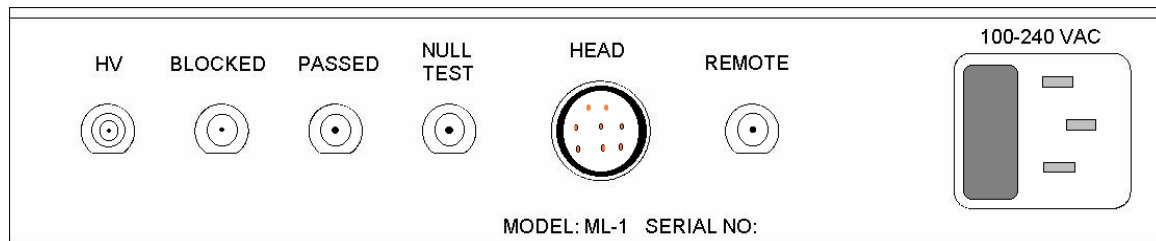

Figure 6. Laser Controller: Back Panel Connections
The AC POWER is given to the laser using the universal AC power input module and can accept any AC voltage from 100-240 VAC 50-60Hz. The two laser head cables are: gray signal cable with an 9 pin AMP connector and a black SHV cable that carries high voltage (HV) to the laser tube. These should be connected to HV and HEAD connectors shown in Figure 6.